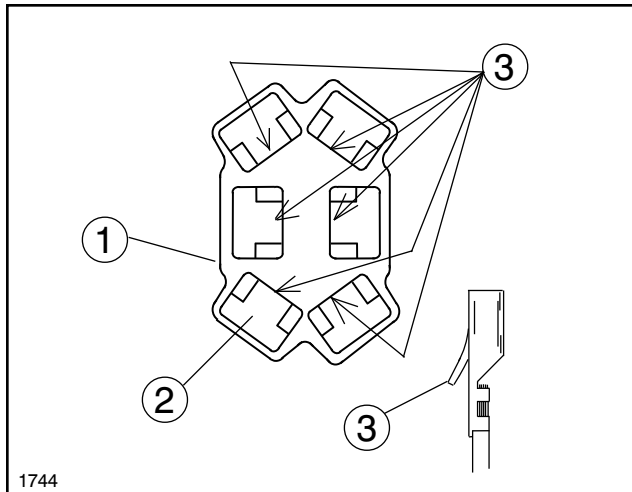

FIG. 4
b. Remove the wires/terminals from the 6-way connectors using a small flat tip screw driver. Insert the tip of the screwdriver into a socket of the Connector from the side opposite of where the wires go in and on the side where the metal Tang of terminal locks into the connector. See FIG 4. Press the Tang back completely and pull the wire/terminal from the socket.